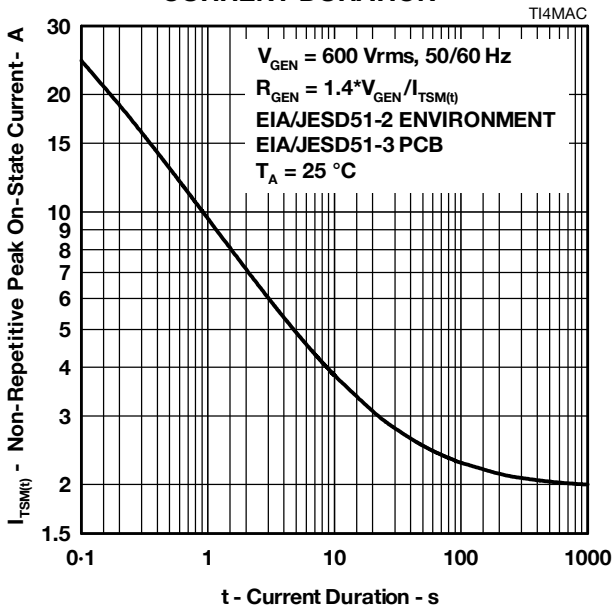

Figure 9.
5. EIA/JESD51-2 environment and EIA/JESD51-3 PCB with standard footprint dimensions connected with 5 A rated printed wiring track widths. See Figure 9 for the current ratings at other durations. Derate current values at -0.61 %/ $^\circ\text{C}$  for ambient temperatures above 25  $^\circ\text{C}$ .
The protector can withstand currents applied for times not exceeding those shown in Figure 9. Currents that exceed these times must be terminated or reduced to avoid protector failure. Fuses, PTC (Positive Temperature Coefficient) thermistors and fusible resistors are overcurrent protection devices which can be used to reduce the current flow. Protective fuses may range from a few hundred milliamperes to one ampere. In some cases, it may be necessary to add some extra series resistance to prevent the fuse opening during impulse testing. The current versus time characteristic of the overcurrent protector must be below the line shown in Figure 9. In some cases, there may be a further time limit imposed by the test standard (e.g. UL 1459 wiring simulator failure).